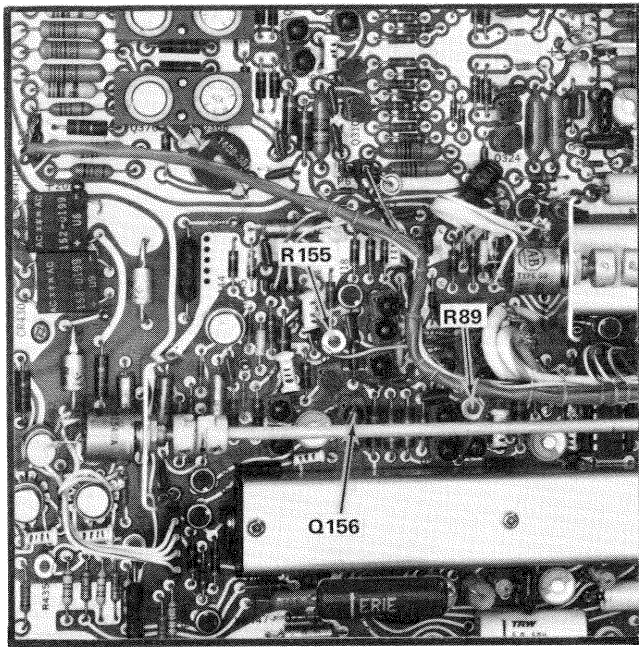
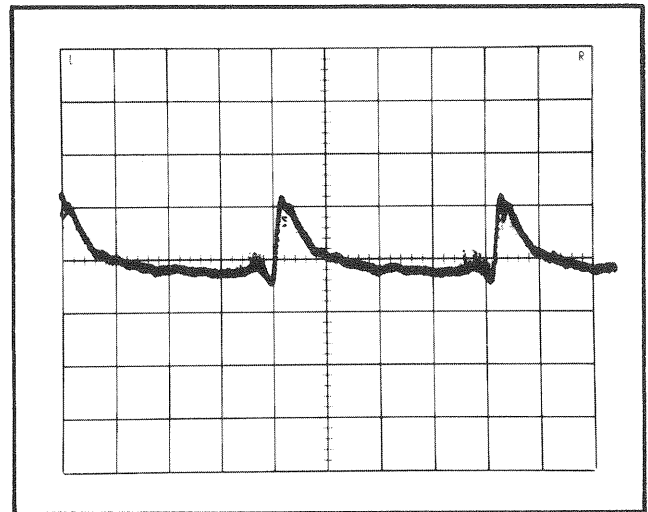

Fig. 5-5. Location of undelayed and delayed trigger sensitivity adjustments.
Fig. 5-6. Typical pulse shape of the trigger pulse at the base of Q156.
- d. ADJUST—The duration circuit sensitivity by adjusting R155 (Fig. 5-5) clockwise from a counterclockwise position until an output pulse is displayed, then advance the adjustment about 10 degrees for stable triggering. Adjustment should be set between the free running state and initial trigger state.
If a pulse output cannot be obtained, connect a 100X probe through a coupling capacitor (Part No. 017-0028-00) to the vertical input of the sampling unit. Connect the probe tip to the base of Q156 (Fig. 5-5). Adjust R155 for a positive-going pulse at the base of Q156 (see Fig. 5-6).
- g. ADJUST—The delay circuit trigger sensitivity by adjusting R89 (Fig. 5-5) clockwise from a counterclockwise position until the delayed pulse output is displayed.